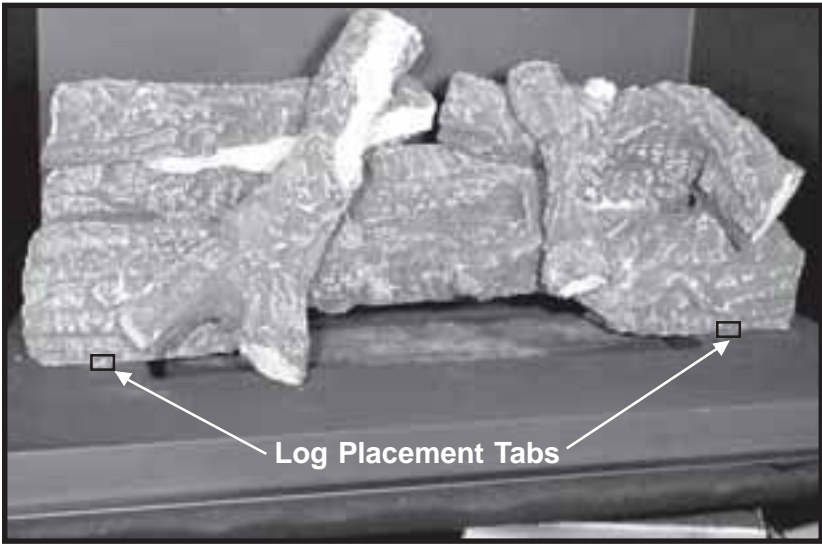

Figure 44
9. Carefully position the log set in place into the fireplace. Pull the log set forward until the log set contacts the log placement tabs. Center the log set in the firebox side to side (see Figure 44). (Grate removed for viewing.)